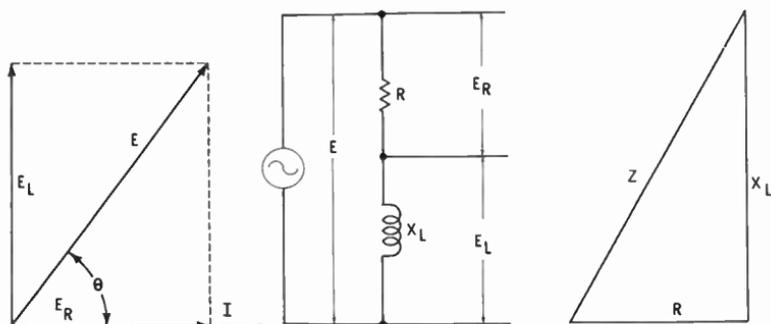

Fig. 1. Combination of resistance ( $R$ ) and inductive reactance ( $X_L$ ).
When a circuit contains both resistance and inductance, as in the case of a coil, it is convenient to consider it as a resistance ( $R$ ) connected in series with a pure inductive reactance ( $X_L$ ). (See Fig. 1.)
**Example:** A coil connected as shown in Fig. 1 contains a 5-ohm resistance and a 0.04-henry inductance. The voltage and frequency of the source are 100 and 60 respectively. To find (a) the impedance of the coil; (b) the current through the coil; (c) the voltage drop across the inductance; and (d) the voltage drop across the resistance: